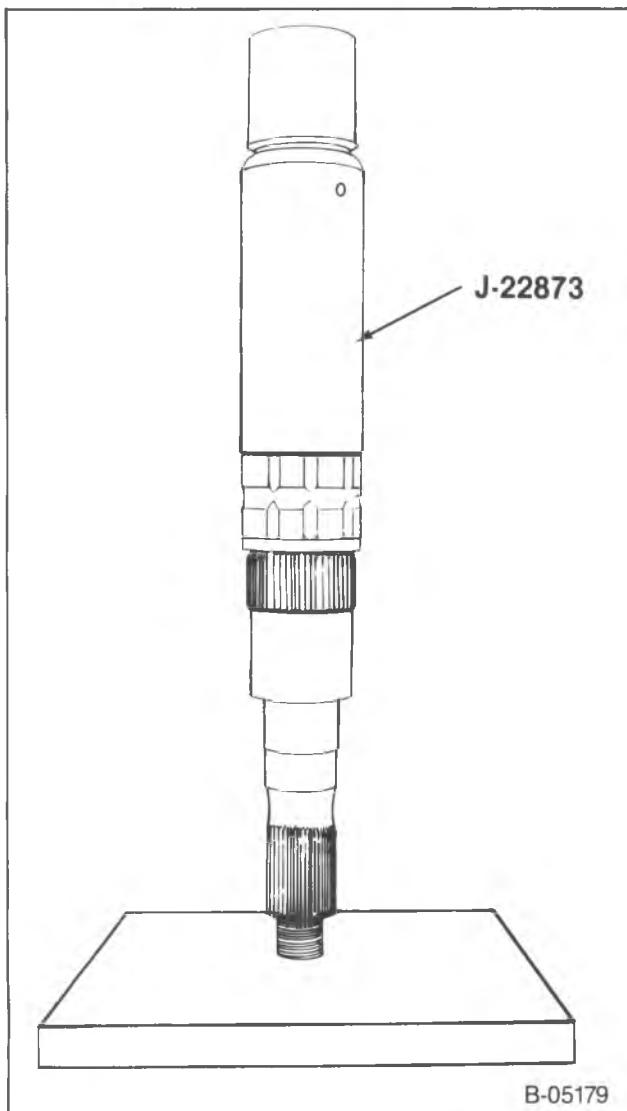

Figure 36—Installing the 2nd Speed Bushing
2. 2nd speed bushing, using J-22873, (figure 36).